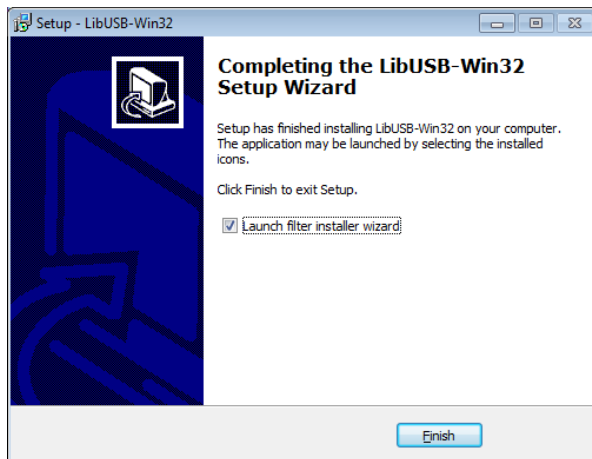

Figure 5.1.
2. Then run **libusb-win32-devel-filter-1.2.6.0.exe**, which can be found in the folder '`<grmon-ver>/share/grmon/`', where `<grmon-ver>` is the path to the extracted win32 or win64 folder from the the GRMON archive. This will install the libusb filter driver tools. Step through the installer dialog boxes as seen in Figure 5.1 until the last dialog. The **libusb-win32-devel-filter-1.2.6.0.exe** installation is compatible with both 64-bit and 32-bit Windows.